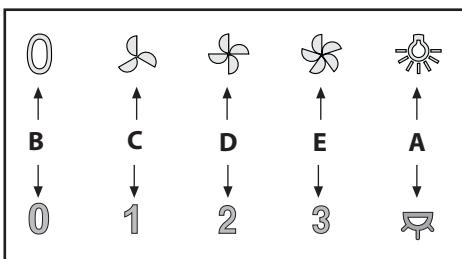

Fig.9
- **Commands (Fig.9) mechanical** the key symbols are explained below: